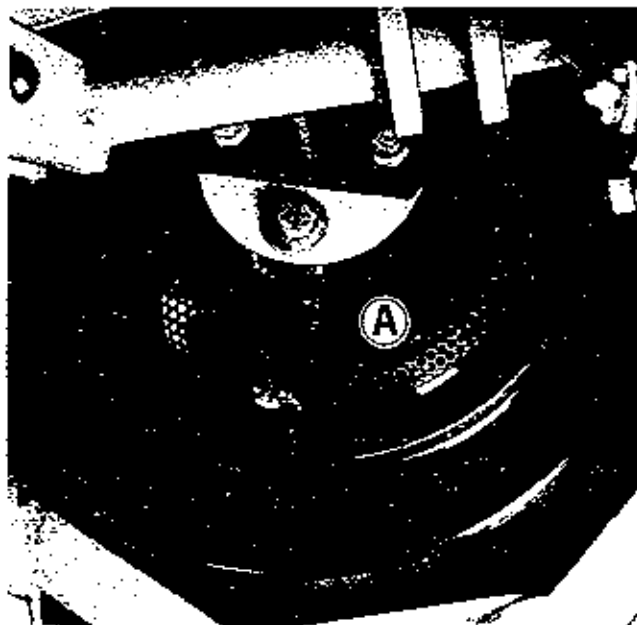

Figure 20. Engine blower screen located at rear of engine as seen from beneath tractor.
**CLEAN ENGINE FINS AND SCREEN:** See figure 20. The blower screen (A) must be kept relatively free of chaff, grass, etc., which would restrict the flow of cooling